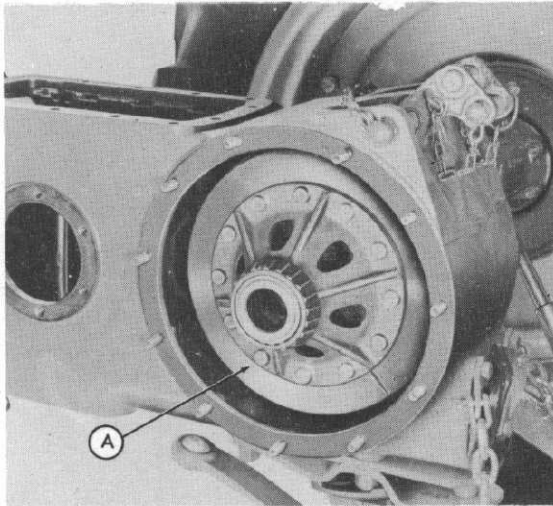

Fig. 8
Step 3—Remove the differential (A-Figure 8) as a unit.